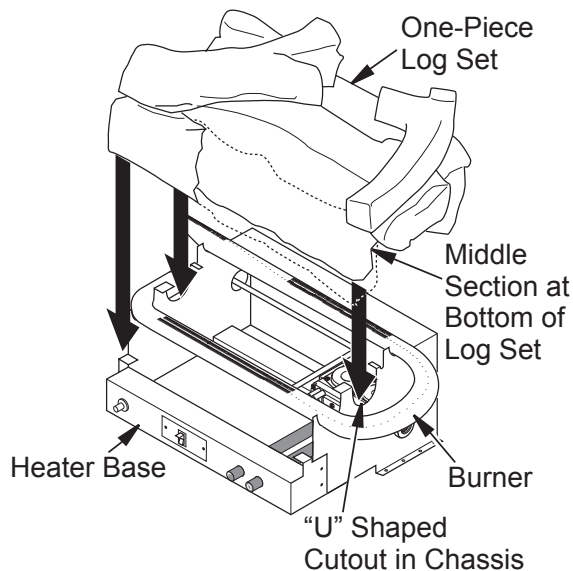
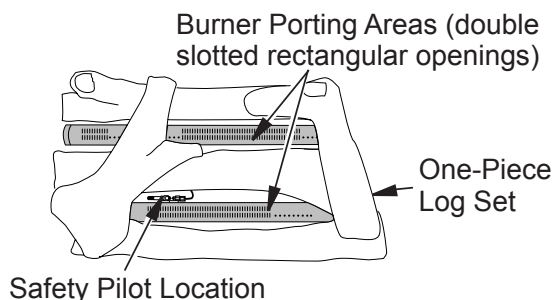

Figure 6 - Installing One-Piece Stove Log Set
Figure 7 - Top View of One-Piece Log Set on Gas Log Heater
4. Set one-piece log on heater base as shown in Figure 6. Make sure middle section at bottom of log is seated into "U" shaped cutout in center of heater base. Log will fit securely on base. **IMPORTANT:** Make sure log does not cover any burner ports and does not touch the stove cavity (see Figure 7).
7. With control knob pressed in, press and release ignitor button. This will light pilot. The pilot is attached to the front burner (see Figure 7, page 8). If needed, keep pressing ignitor button until pilot lights.